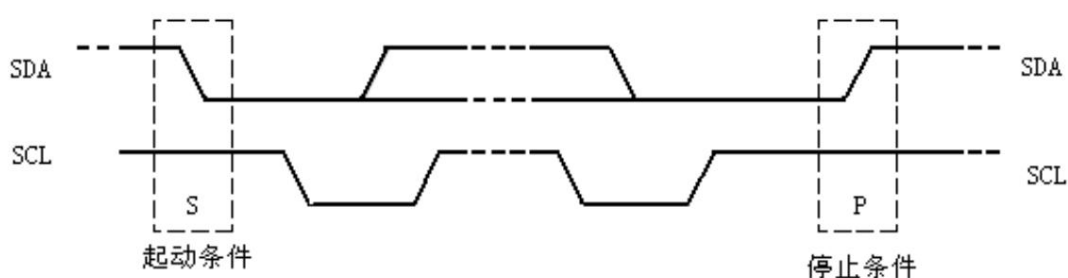

图11: I2C总线的起动 (START) 和停止 (STOP) 条件定义
When the data line is at the rising edge and the clock line is at a high level, it is the stop condition (P) (see Figure 11).